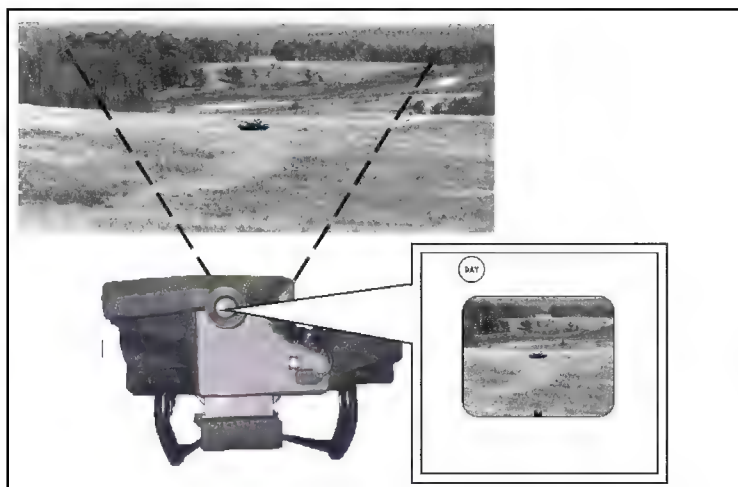

Figure E-37. Day field-of-view image and area of coverage.
(1) **Day Field-of-View.** Day FOV provides a full-color, visible-light target image with 4x magnification (Figure E-37). Day FOV imagery is only useful during daylight hours with clear weather. The gunner should use it primarily during NVS cool down or when the IR conditions make it difficult for him to see the target in the NVS. Day FOV covers a large area and is used primarily for surveillance and target detection. The 4x magnification limits the gunner's ability to make out target details that are required for target classification, recognition, and identification. However, the gunner may activate the seeker in this FOV to perform a quick engagement.